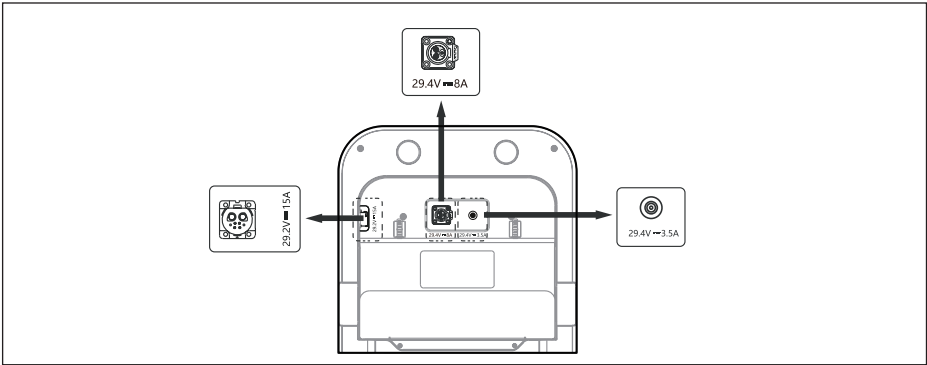

Figure 1
1. Please connect the power adapter to the labeled interface on the charging station that matches its specific model (refer to Figure 1). Only connect one adapter at a time. Do not connect two or more adapters at the same time.